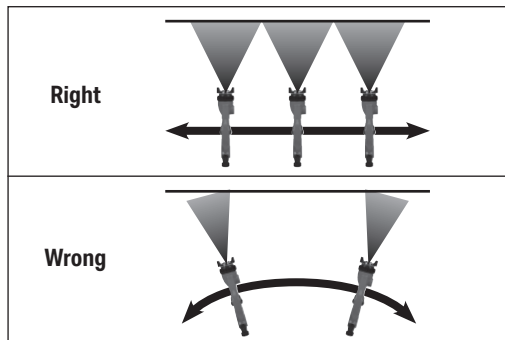

Fig. 10
- Move the spray gun with a smooth motion, keeping it perpendicular to and at a constant distance from the surface at all times (Fig. 10).